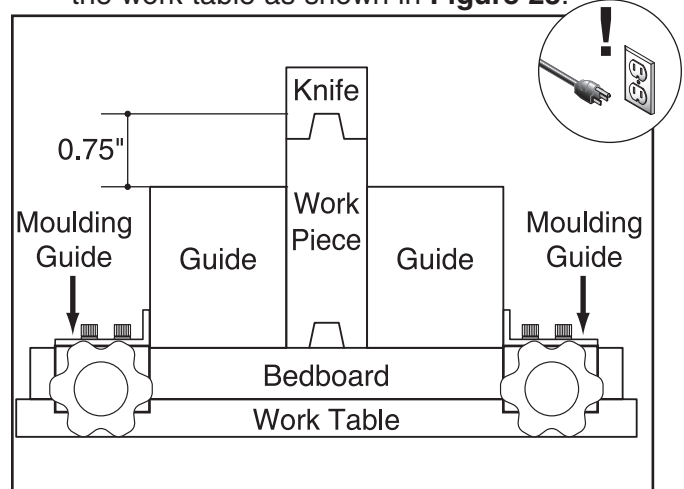

Figure 23. Edge moulding fences.
2. Build wooden fence rails that are $\frac{3}{4}$ " shorter than the work piece and the same length as the work table as shown in **Figure 23**.